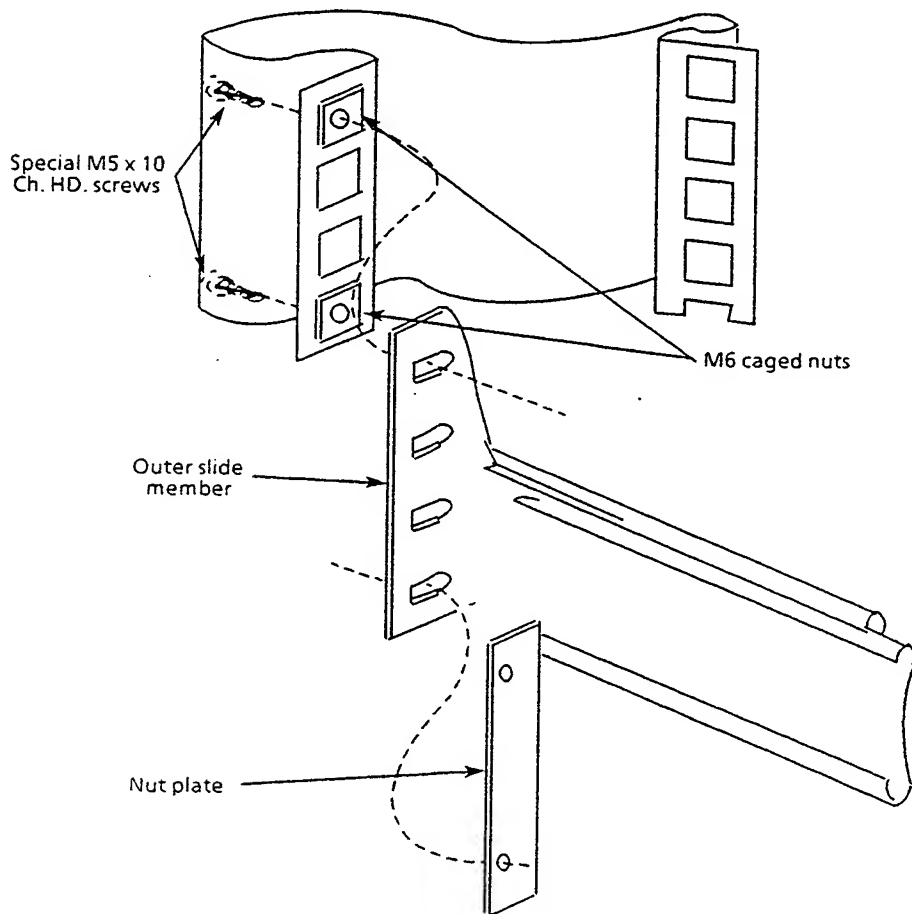

Fig. 2.7 *Fitting the outer slide members into the rack*
4.3.5 Fit the Outer Slide Members (two) to the rack as shown in Fig. 2.7